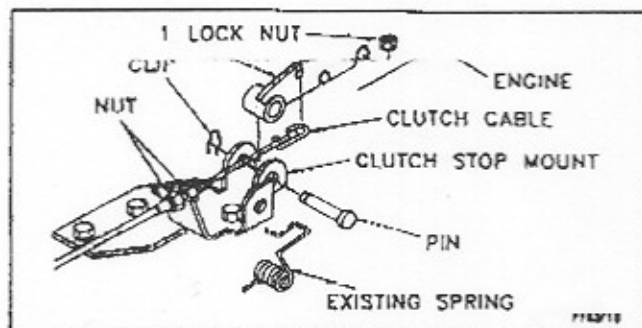

Figure 1.
2. Remove Clip Pin, Clevis Pin and existing Spring, save Clip and Clevis Pin. Discard existing Spring. See figure 1.
3. Assemble Clutch Stop Arm to Clutch Stop Mount with Clevis Pin and Clip Pin. See figure 1.
4. Assemble Spring Anchor Bracket to Engine. (remove nut, lock washer on engine and assemble the bracket to engine with Lock Nut.) See figure 1.
5. Assemble Clutch Cable to Clutch Stop Arm. See figure 1.
6. Assemble Spring to, Clutch Stop Arm and Spring Anchor Bracket. See figure 1.